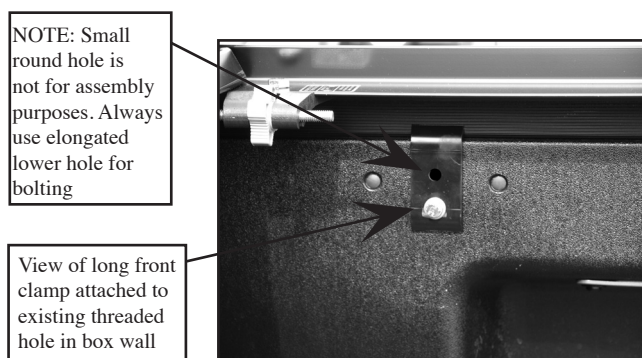

FIGURE 2
2. At front of rail, mount 1st long clamp using a new bolt, lock washer, and flat washer. Turn bolt into existing threaded sleeve in box wall. Adjust clamp up as high as needed to level rail when tightening. After tightening - check rail for level. If rail tilts down - clamp will need to be loosened, moved up and retightened. If rail tilts up - clamp will need to be loosened, moved down and retightened. Do this until rail is level. Torque to 75 inch pounds. **(SEE FIGURE & FIGURE 2).**